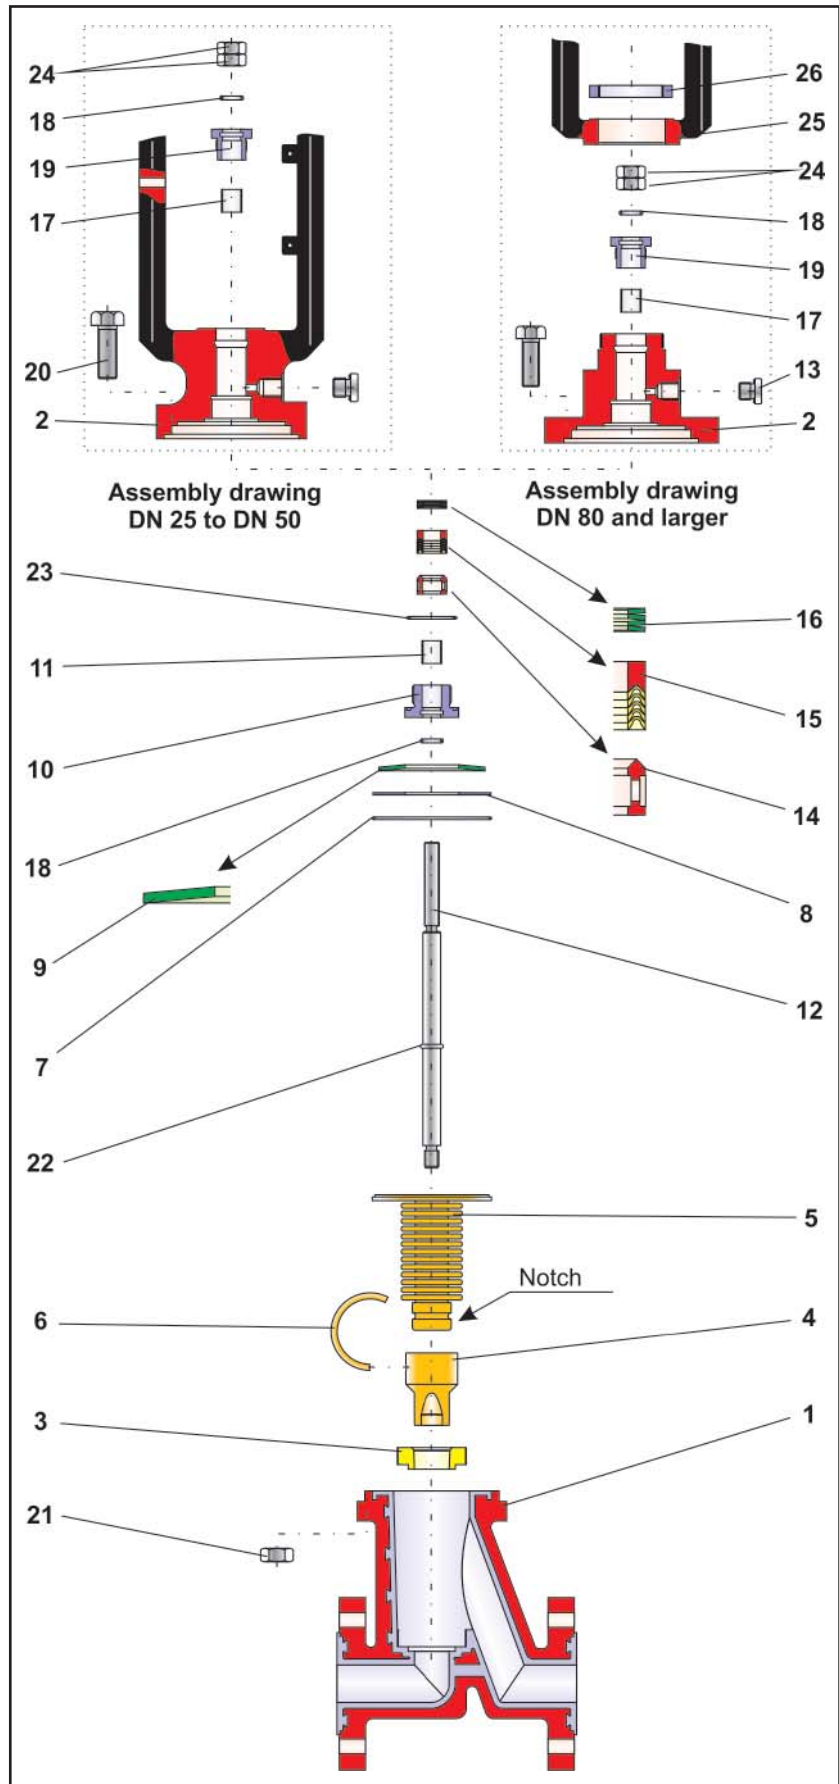

Fig 3 - Explosion drawing of the Series 1b Valve **manufactured from 2006**
Note: The position and arrangement of individual parts shown in explosion drawing (Fig. 3) must be observed when assembling the valve.
Place the set of spring washers (16) in the intended bore. Refer to the explosion drawing (Fig. 3) for the arrangement. Insert the final ring, the V-rings of the packing (15) and the distance bushing (14) in the correct order. Refer to the explosion drawing (Fig. 3) for the correct order.